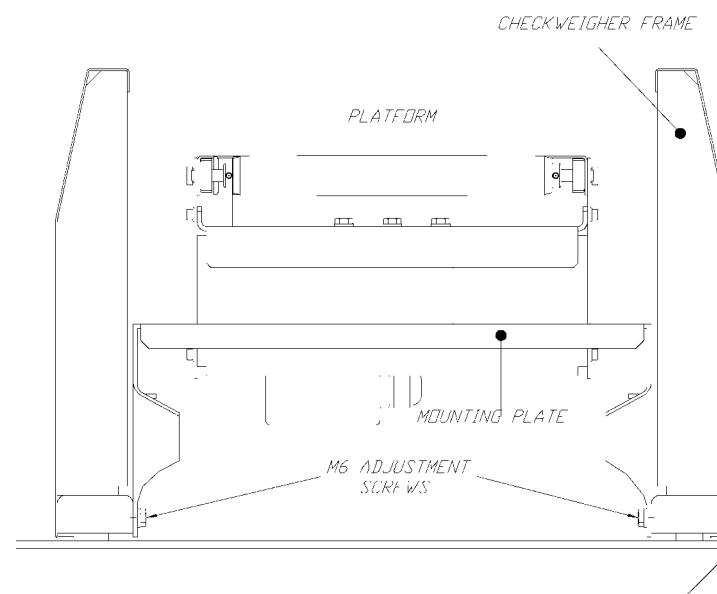

Figure 8.26 Conveyor Adjustment
1. Loosen the four M10 bolts that hold the conveyor to the frame (see Figure 8.26).